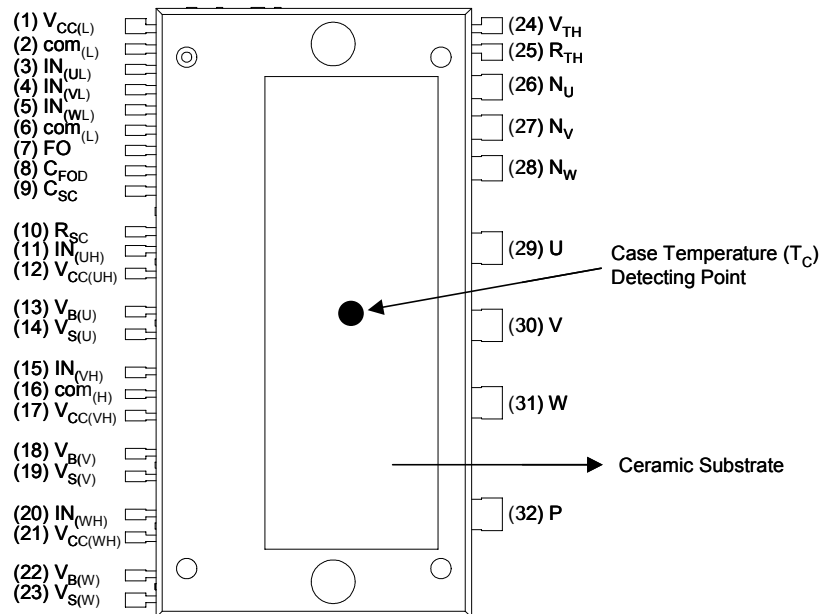

Fig. 2.
| Module Case Operation Temperature   | $T_C$                 | Note Fig.2  | -20 ~ 100 | $^\circ\text{C}$ |
- For the measurement point of case temperature( $T_C$ ), please refer to Fig. 2.